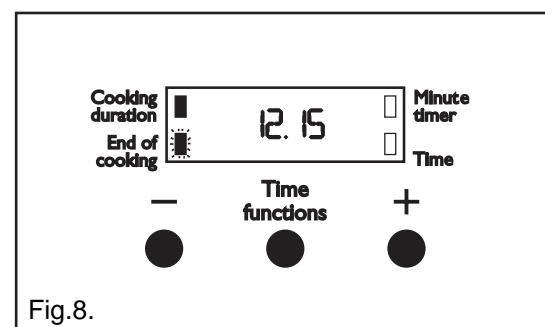

Fig.8.
- 5) To set the 'End of cooking'. Press the Time Functions control button until the 'End of cooking' indicator neon flashes. Press the increase control ( + ) until the required stop time is displayed, e.g. 12.15 p.m. as Fig. 8. If necessary depress the decrease control ( - ) until the correct time interval is achieved.